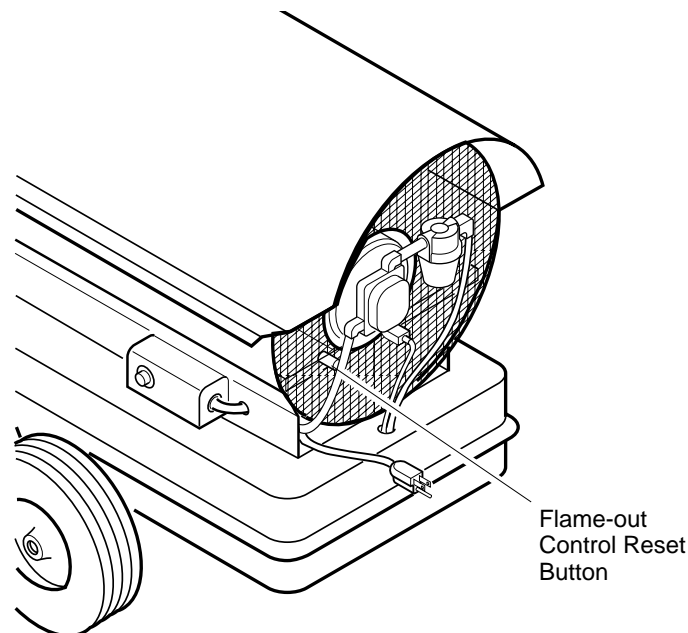

Figure 4 - Flame-out Control Reset Button
6. The motor will start when power cord is plugged into outlet. The heater should ignite at once. If heater does not ignite, restart heater. To restart heater, wait 60 seconds, then push in flame-out control reset button. Flame-out control reset button is at rear of heater near power cord (see Figure 4).
Note: Be sure to reset motor overload protector by pressing reset button on top of motor. 4. Press and release flame-out control reset button. See Figure 4, page 8 for button location. 5. Replace flame-out control. 6. Replace power relay. 7. Replace thermostat. 8. Turn fan by hand. If fan is hard to turn, see Pump, page 16. |